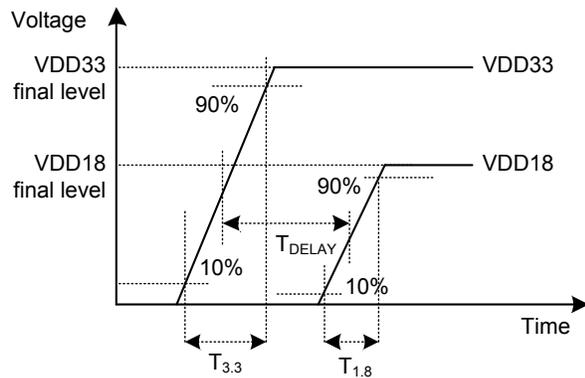

Figure 18. VDD18 and VDD33 power-on timing sequence.
In the SC1905 reference design, a delay between the VDD18 and VDD33 supplies has been designed into the EV kit. This delay is required to ensure that the VDD33 IO supply is settled before the VDD18 is powered on. As a result, the VDD18 digital core is reset (with an internal Power-On Circuit when all the digital IOs are quiet and the EEPROM supply is stable. Refer to **Figure 18** and **Table 5** for the timing requirements. There is no requirement on the power-off sequence.
**IMPORTANT:** The VDD18 and VDD33 power supplies must be powered sequentially if no external reset is applied. Refer to Figure 18 and Table 5 for the timing requirements.